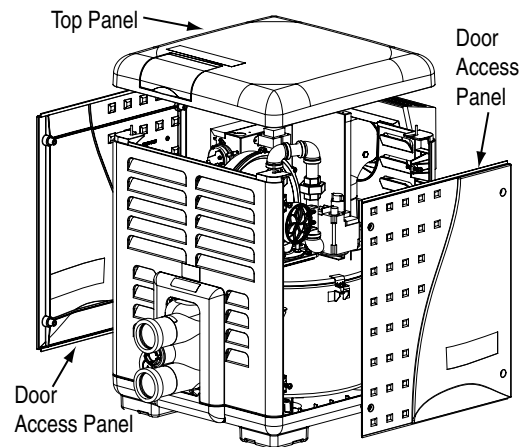

Figure 25.
1. Unbolt and remove the door panels (see Figure 25).